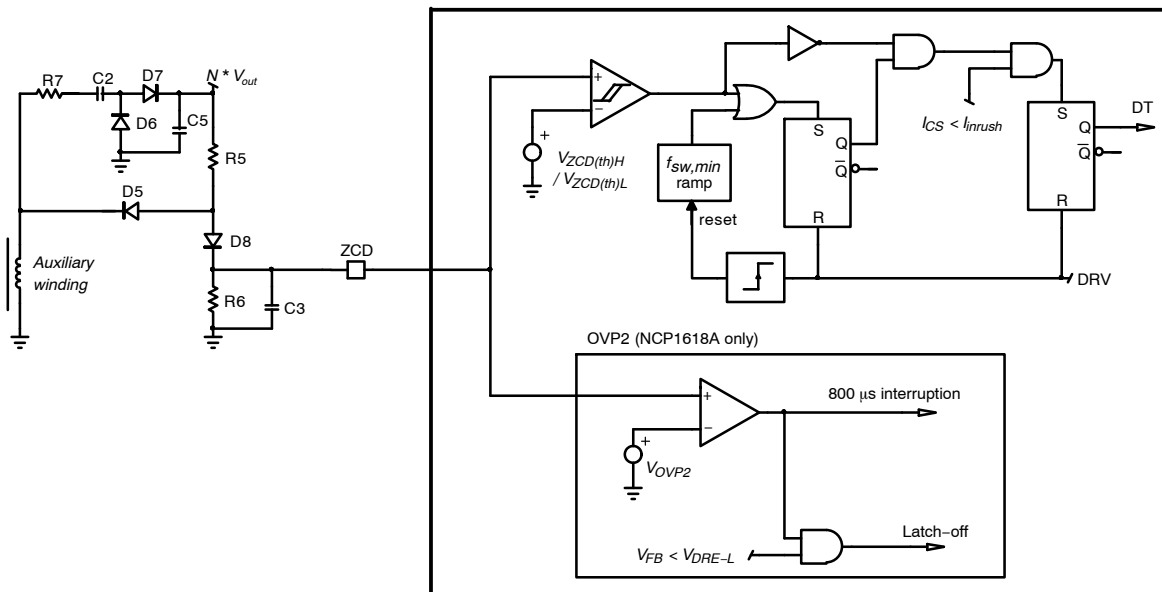

Figure 10. Zero Current Detection Block
- Application note AND90011 discusses recommended circuitries for an accurate ZCD and OVP2 detections. Figure 10 provides one of these circuitries. In this circuit, R_7 being small, capacitor C_2 is charged to
Figure 10 shows how the NCP1618 detects the valley. An internal comparator detects when ZCD pin voltage exceeds an upper threshold V_{ZCDH} (1 V typically). When this is the case, the inductor core is resetting and the ZCD latch is set. This latch will be reset when the next driver pulse occurs. Hence the output of the latch remains high during the whole off-time (demagnetization time + any possible dead time). The output of the comparator is also inverted to form
- The ZCD pin impedance (for instance R_3 of Figure 10), must be higher than 7.5 k Ω not to trigger the ZCD pin short–to–ground protection.
If no ZCD can be detected when the circuit operates in FCCrM mode, the circuit cannot use the valley detection to start a new current cycle. In this case, the next DRV pulse is forced by the DCM minimum frequency ramp ($f_{sw,min}$ ramp of Figure 10) which acts as a watchdog.
- If the pin is grounded, no falling edge of the auxiliary winding can be detected. The DRV remains off until the DCM minimum frequency ramp initiates a new cycle. Before the new pulse is generated, the circuit senses the pin impedance by sourcing 250 μ A. No DRV pulses are generated until the pin voltage exceeds V_{ZCDH} . Hence, the part is inhibited when the pin is grounded. Not to trigger this protection, the pin impedance (for instance R_3 of Figure 10. must be higher than 7.5 k Ω).